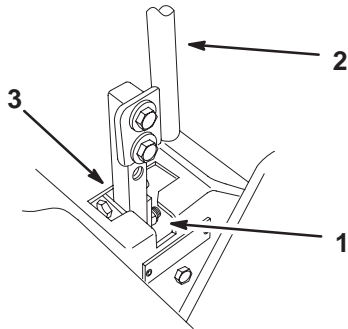

Figure 53
5. Check where the control lever is relative to notch in console (Fig. 53). It should be centered allowing lever to pivot outward to the neutral lock position.
7. Apply slight rearward pressure on the motion control lever, turn the head of the adjustment bolt in the appropriate direction until the control lever is centered in neutral lock position (Fig. 53).